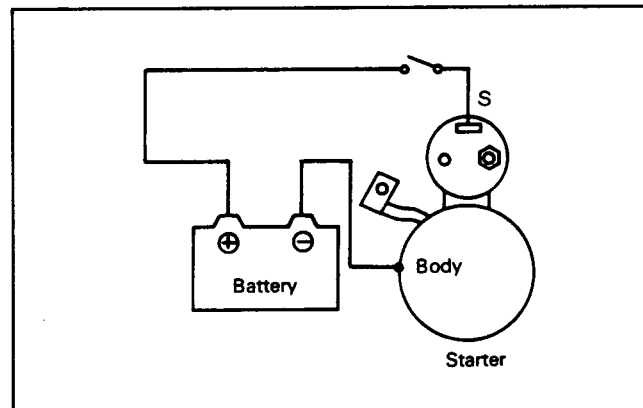

Figure 21
1. Disconnect the wire from terminal "M" (Fig. 21).